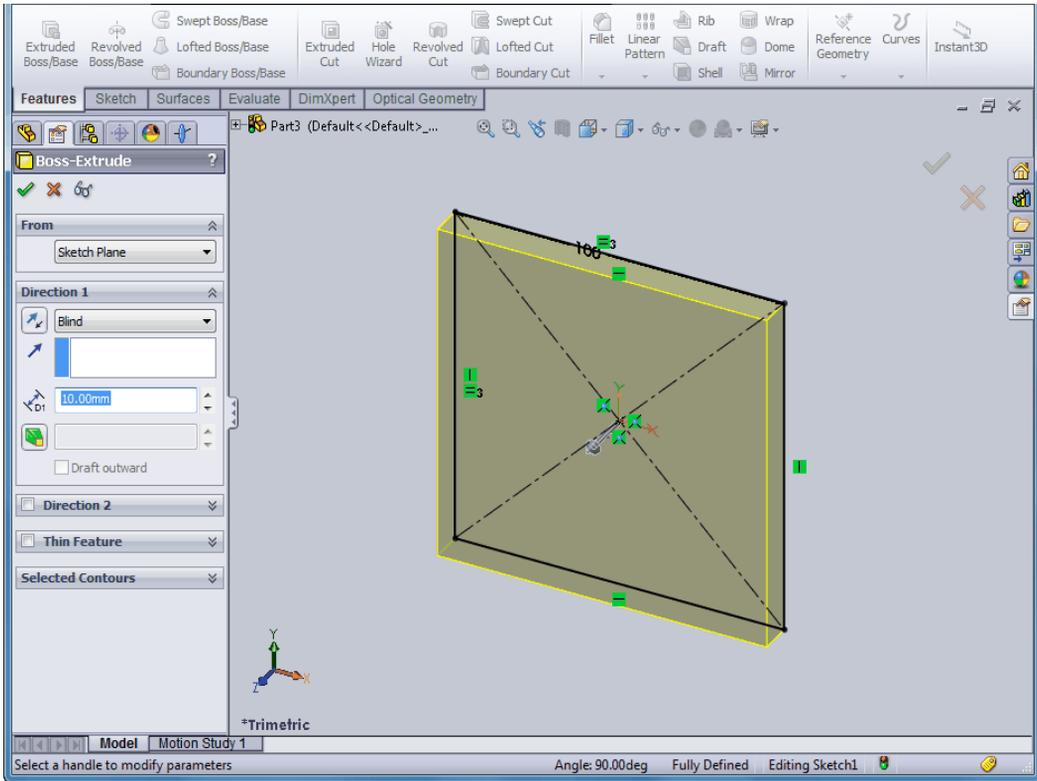

Figure 46 Solid gold plate in the graphics area (right) and the Boss-Extrude PropertyManager (left)
- 16 Click  on the Boss-Extrude PropertyManager to accept the default values, and to create a solid plate that is 10mm thick. See Figure 46.